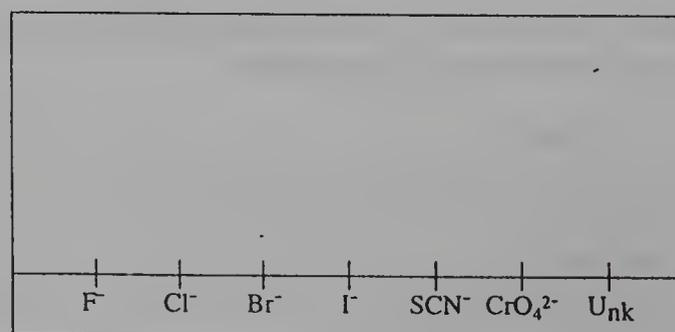

Figure 32-3. Spotting of Halides and Pseudohalides
- With pencil draw a line 1 cm from the long edge of the paper and mark the line for  $F^-$ ,  $Cl^-$ ,  $Br^-$ ,  $I^-$ ,  $SCN^-$ ,  $CrO_4^{2-}$ , and the unknown as shown in Figure 32-3.